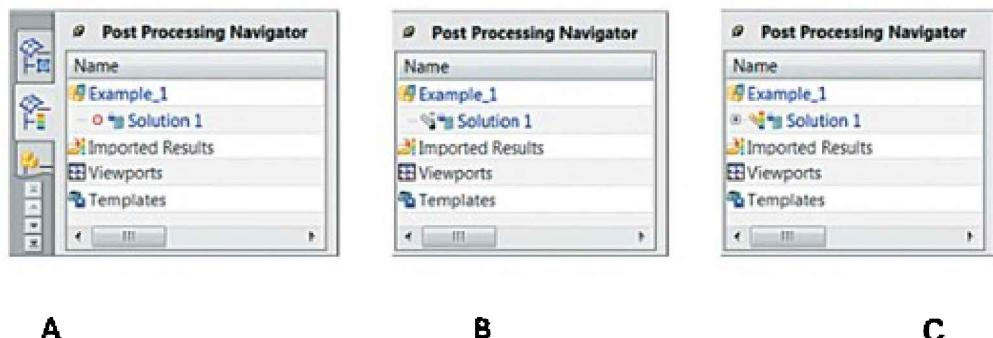

Figure 5.3. Post Processing Navigator tab:
- Unfilled red circle: the results file is not loaded, or the corresponding solution was not calculated (Figure 5.3, A).
- Grey “palette ruler”: the simulation is complete (the results file is loaded) but inactive (Figure 5.3, B).
- Coloured “palette ruler”: the simulation is complete, and the solution is active (Figure 5.3, C).